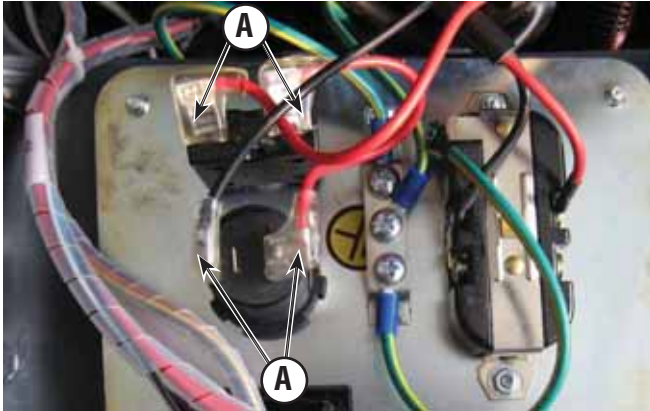

Figure 66
2. Disassemble panel cover to locate and check the wire connections (A, Figure 66).